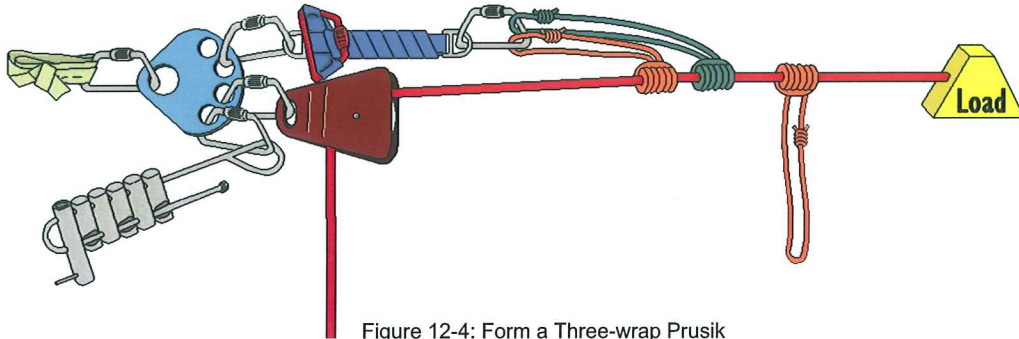

Figure 12-4: Form a Three-wrap Prusik
- Form a three-wrap prusik on the belay/safety line on the load side of the tandem prusik brake. (Figure 12-4)